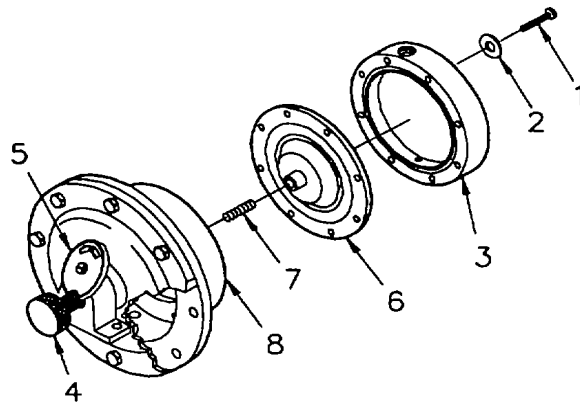

Figure 4-12. Pumphead
- (1) Remove pumphead and chemical side diaphragm.
- (a) Remove eight screws (1, Figure 4-12), eight flat washers (2), and pumphead (3).
- (b) Turn stroke adjusting knob (4) clockwise until dial scale assembly (5) reads one.
- (1) Clean all components with soapy water.
- (2) Inspect diaphragms for tears, holes, or brittleness. If damaged, replace.
- (3) Inspect dial gear for bent, damaged, or missing teeth. If damaged, replace.
- (4) Inspect stroke adjusting knob (4, Figure 4-12) for damaged threads, and spline gear. If damaged, replace stroke adjusting knob.
- (5) Inspect pumphead (3) for cracks or damage. If damaged, replace.
- (7) Install two screws (2) through flange (3), water side diaphragm (4), and cylinder (1), and tighten enough to hold assembly together.
- (8) Install and tighten all remaining six screws.
- (9) Lubricate and install stud (7, Figure 4-12) on chemical side diaphragm (6).
- (10) Install chemical side diaphragm (6). Make sure holes line up.
- (11) Install pumphead (3), making sure one of fittings for discharge and suction valves will line up with drain when installed. Secure with eight screws (1) and washers (2).